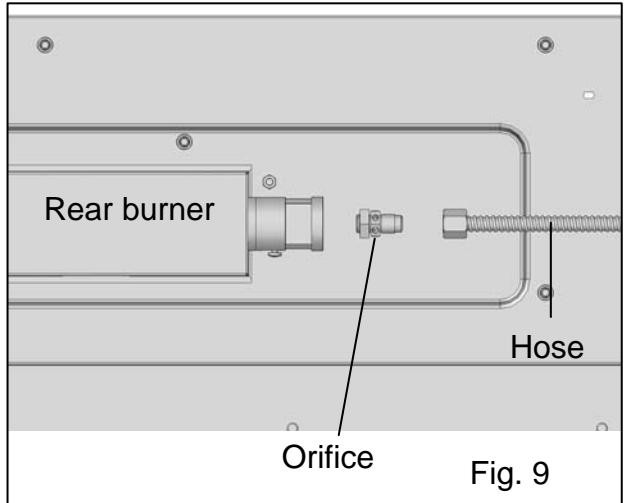

Fig. 9
2. Use wrench to remove rear burner orifice from the rear burner and the hose. (Fig. 9)